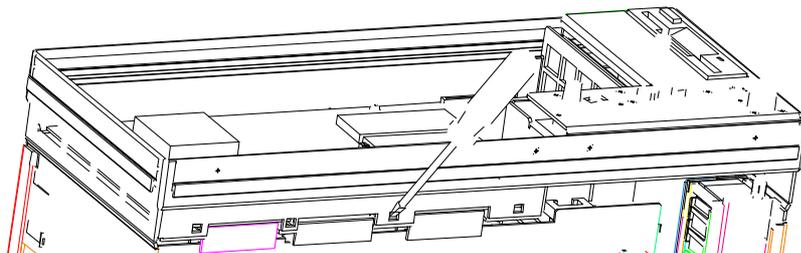

Fig. 3-2 Removing the front module controller
Remove the 10 semi screws (590) in the front module controller and remove the front module controller in the following way (see Fig. 3-2):